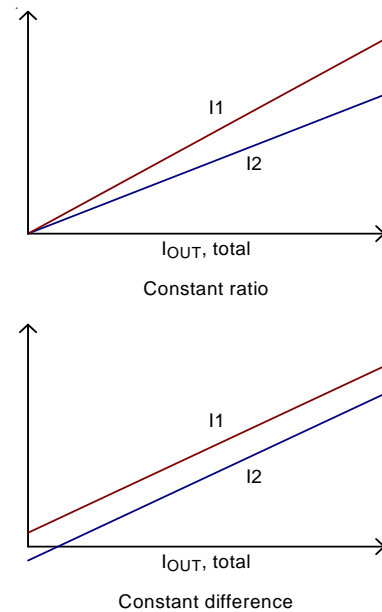

Figure 10. Category of Phase Current Imbalance
If phase current is not balanced due to asymmetric PCB layout of power stage, external resistors can be adjusted to correct current imbalance. Figure10 shows two types of current imbalance, constant ratio type and constant difference type. If the initial current distribution is constant ratio type, according to Equation (3), reducing  $R_{CSN}[1]$  can reduce  $I_{L}[1]$  and improve current balance. If the initial current distribution is the constant difference type, according to Equation (2), increasing  $R_{CSP}[1]$  can reduce  $I_{L}[1]$  and improve current balance.